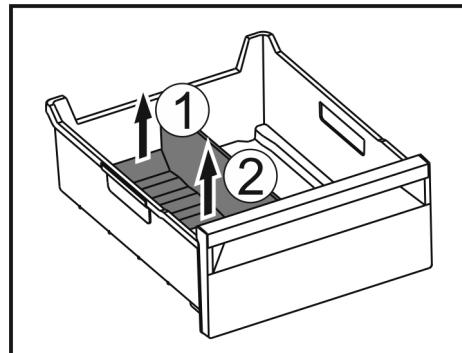

Fig. 166
▶ 提升冰格分隔器后部。Fig. 166 (1)
▶ 向上取出冰格分隔器。Fig. 166 (2)